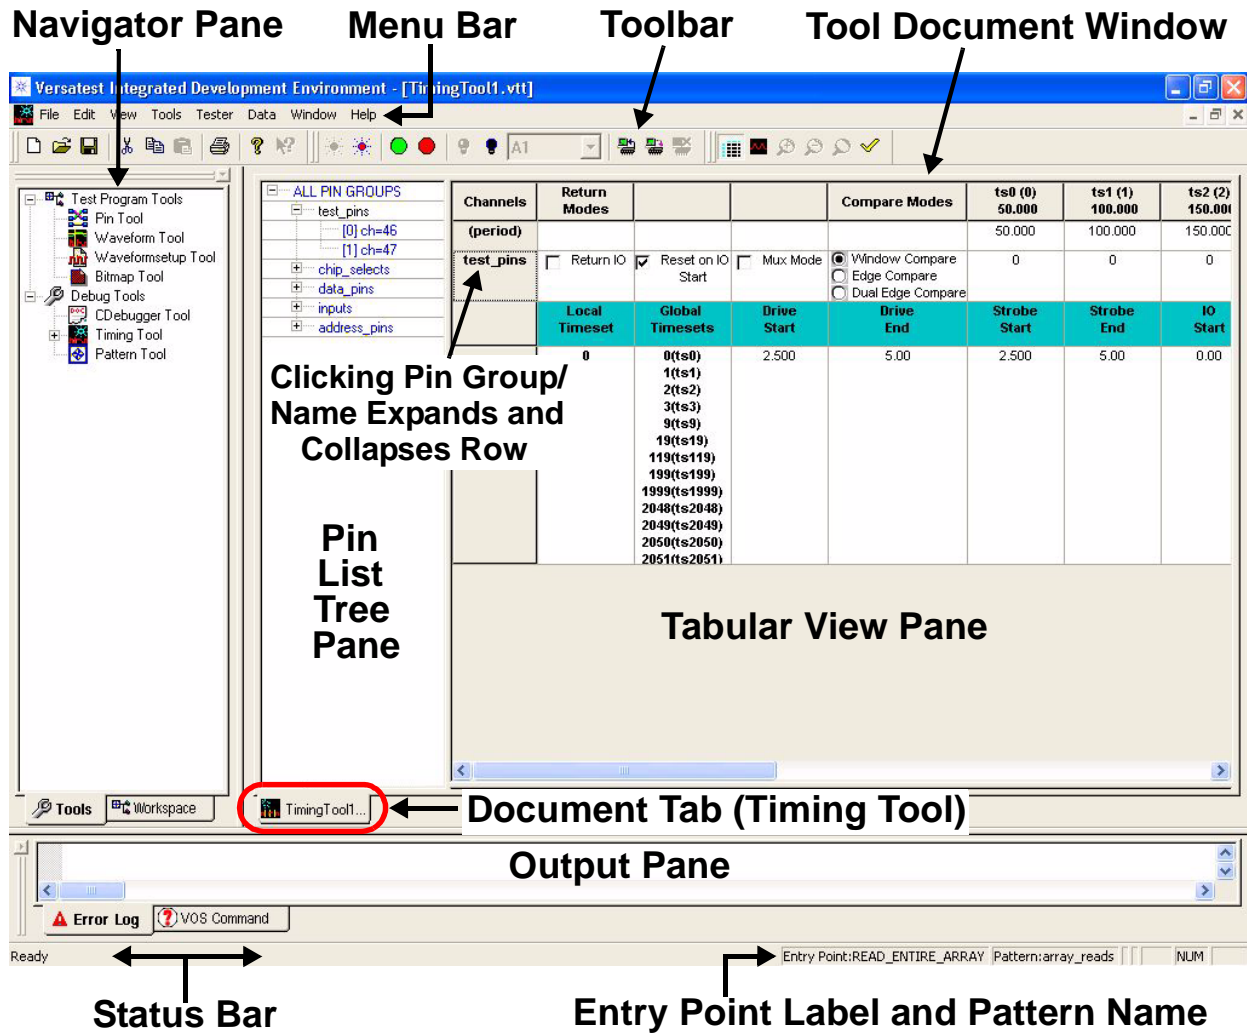

Figure 7-45. Timing Tool Main Window Tabular View Pane
- 3 Selecting the Show Tabular View  toolbar button or its corresponding View > Mode > Tabular command displays the tabular view (similar to Figure 7-45).